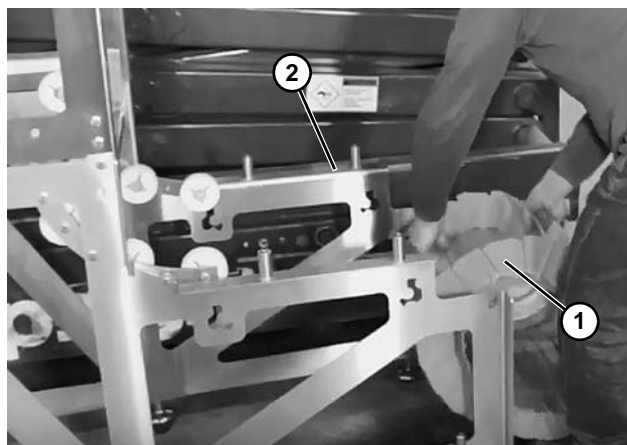

**Figure 2**
Typical Connection Components (**Figure 2**)
1. Connect the conveyor frames (**Figure 2, item 1**) using connecting bar (**Figure 2, item 2**) and three hex head cap screws (**Figure 2, item 3**) on each side.